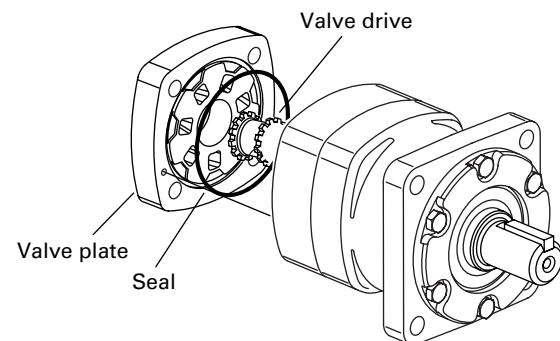

Figure 5
10. Remove 95,0 mm [3.74 inch] I.D. seal from valve plate (see Figure 5).
11. Remove valve drive (see Figure 5).